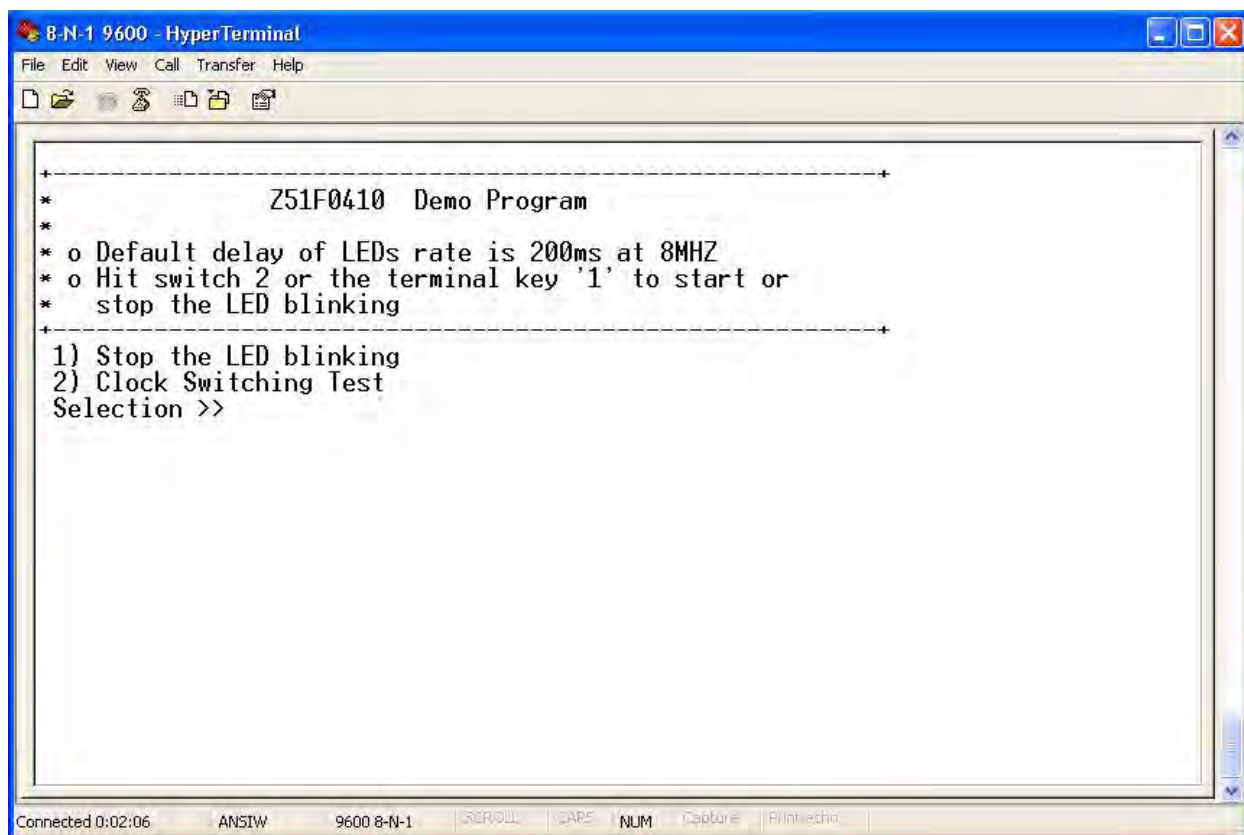

Figure 31. Demo Program Menu in HyperTerminal
3. Click the **Call** button to connect to the Z51F0410 Board. Upon connection, you should be able to see the Demo program menu shown in Figure 31.